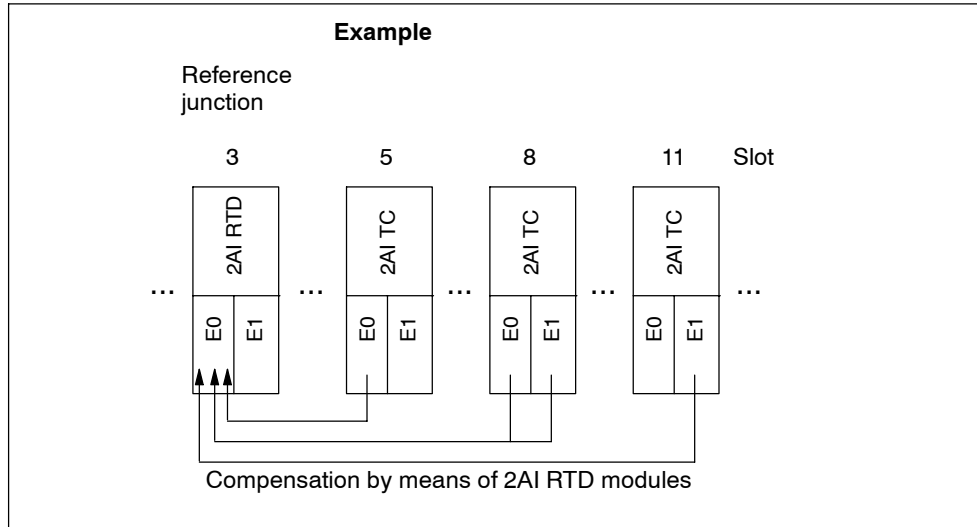

Figure 12-4 Example of Assigning Parameters of Reference Junctions
- Setup: To keep things simple, only RTD and TC modules are shown in Figure 12-4: